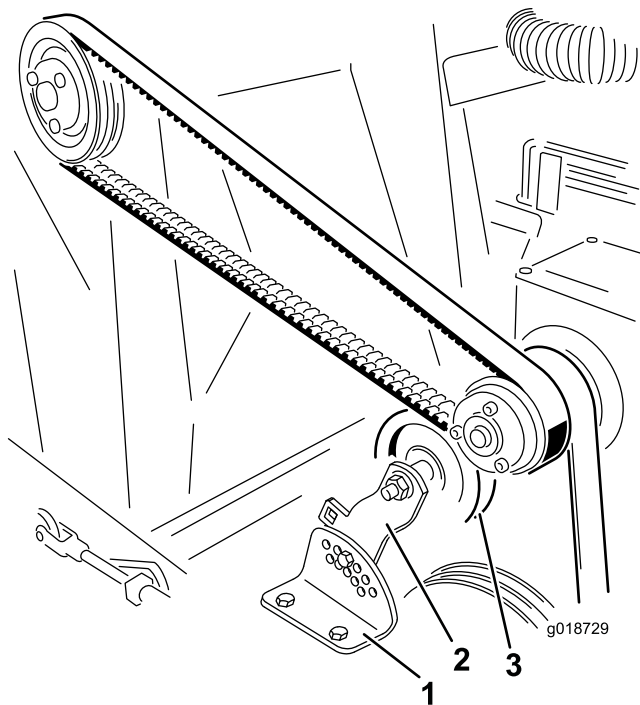

Figure 23
- Remove the nut and bolt securing the idler pulley bracket to the tension adjusting bracket (Figure 23).